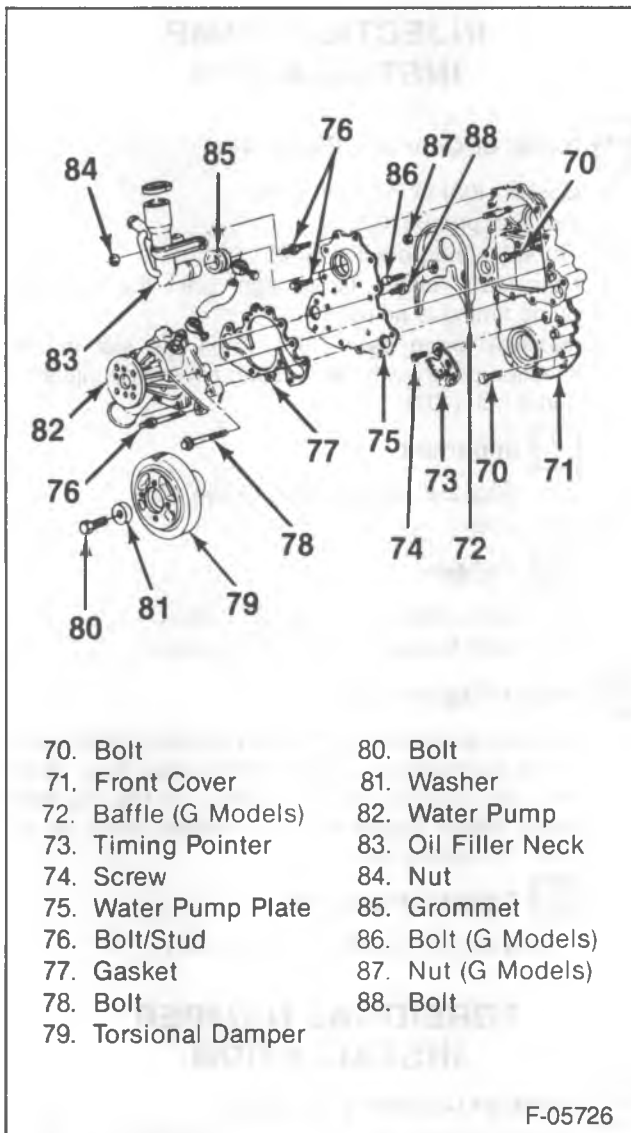

Figure 39—Front Cover and Components
**Install or Connect (Figures 39 and 40)**
**Install or Connect (Figure 39)**
1. Torsional damper (79). Tap into place with a mallet. Make sure the key is in place. Make sure the damper is all the way on the crankshaft.
2. Bolt (80) and washer (81).
Install or Connect (Figures 39 and 46)